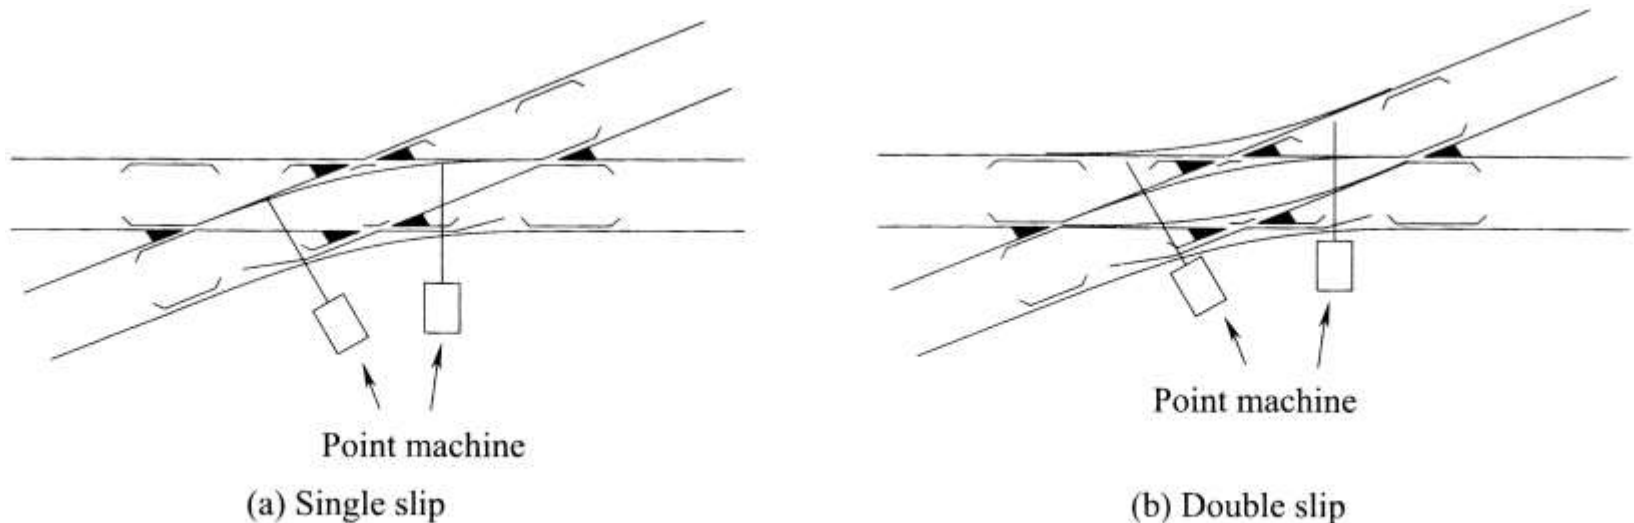

Fig. 1.6 Slip crossings
- ◆ A crossing with a slip connection at one side is called a “single slip” and a crossing with slip connections at both sides is called a “double slip” (Fig.1.6). On North American, railways slip crossing are called **slip switches**.